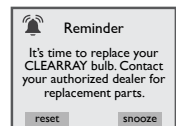

Figure 15.0c
21. ClearRay® UV Replacement Reminder: This message will appear when the ClearRay® UV bulb reminder time has expired (Figure 15.0c). The ClearRay® UV bulb **must be replaced**.